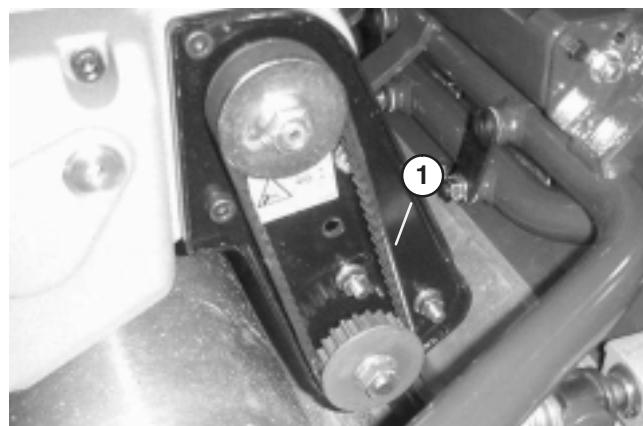

Figure 41
2. Check tension by depressing belt (Fig. 41) at mid span of pulleys with 4 ± 1 lb. of force. Belt should deflect $\frac{1}{4}$ in. If deflection is incorrect, proceed to next step.